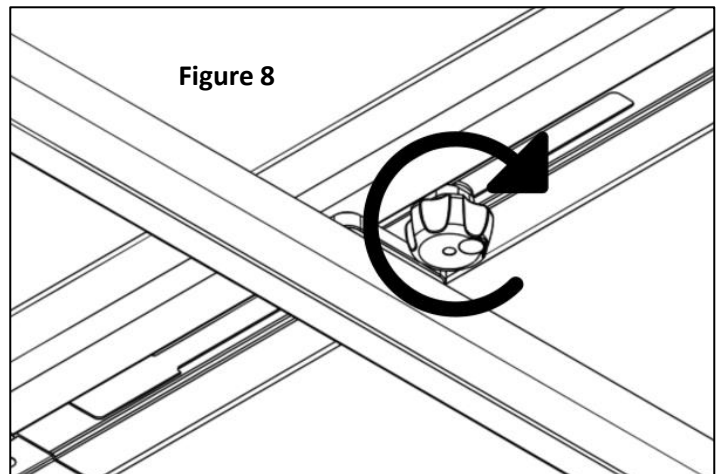

Figure 8
- 11) Tighten down the locking knob to secure the CRC System. Please note that the knobs have a built-in torque limiter to prevent over-tightening (Figure 8).